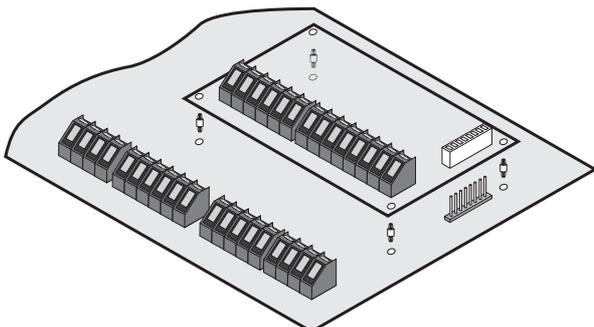

Figure 2. *Premier 24* Installation
- 1) Push the four support pillars (supplied) into the four locating holes on the control panel PCB (see Figure 2).
- 2) Plug one end of the control lead "A" (see Figure 2) onto JP7 of the *Premier OP8* and the other end onto JP7 of the *Premier 48/88/168* or JP9 if installing on a *Premier 640*.